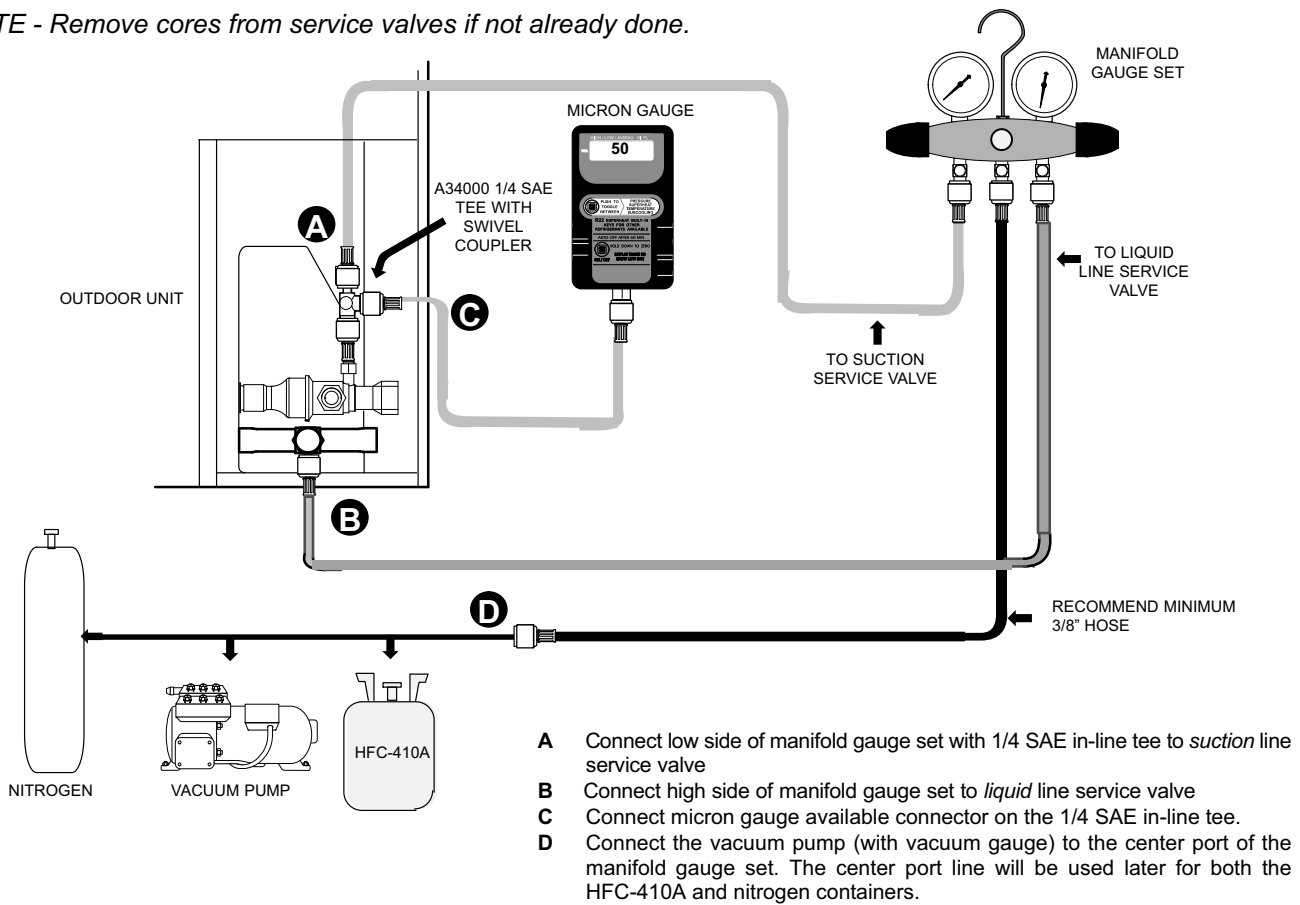

FIGURE 15
1. Connect an HFC-410A manifold gauge set as illustrated in figure 15.